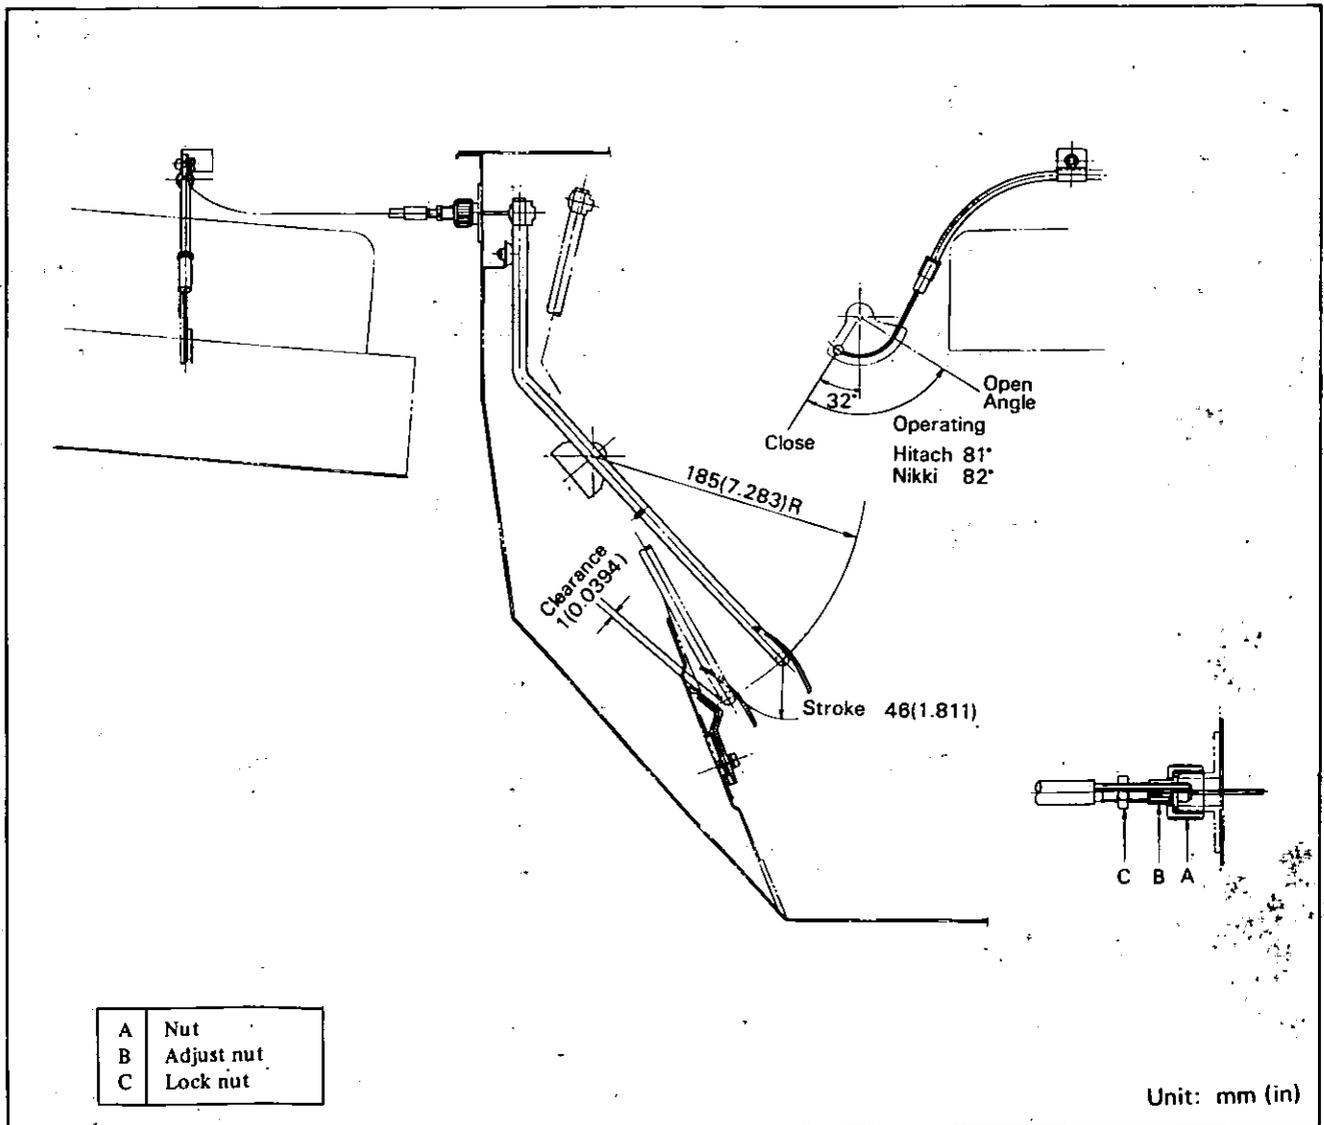

Fig. FE-1 Accelerator control system for RH drive
(1) Assemble accelerator control system as shown in Figure FE-1. Fully screw nut "A" against accelerator wire bracket, and unscrew one complete turn. Make sure that adjust nut "B" can be turned freely and lock nut "C" is loose.
(2) With wire provided with sufficient slackness, turn adjust nut "B" clockwise, and tighten it up to such an extent that throttle lever is about to move. (Play is zero at this time.)
(3) Unscrew adjust nut "B" one to two complete turns. Play will be 1 to 2 mm (0.04 to 0.08 in). Now, completely tighten nuts "A" and "C" to secure nut "B".